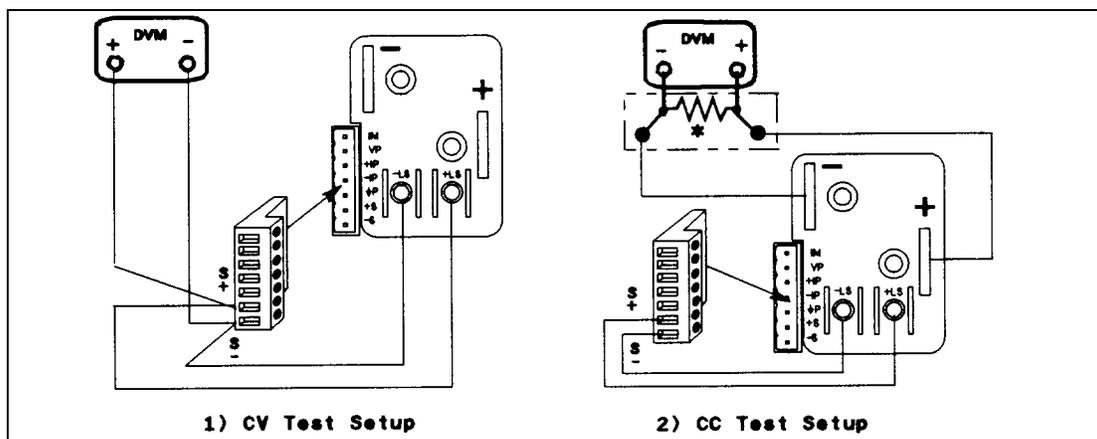

Figure C-1. Verification Test Setup
Figure C-1 shows the setup for the tests. Be certain to use load leads of sufficient wire gauge to carry the output current (see Table 8-1). To avoid noise pickup, use coaxial cable or shielded pairs for the test leads.
This test verifies that the voltage programming, GPIB readback, and front panel display functions are within specifications. Figure C-1(1) shows the setup for the tests. Measure the dc output voltage directly at the sense connections of the output terminals or bus bars. Connect the output as shown.
1	Turn off the power supply and connect a DVM across the sense terminals (see Figure C-1(1)).
This test verifies that the current programming and readback are within specification. Connect the appropriate current monitoring resistor (see Table C-1) as shown in Figure C-1(2). The accuracy of the resistor must be as specified in the table.
1	Turn off the power supply and connect the current monitoring resistor as shown in Figure C-1(2). Be certain to use wire of sufficient size to carry the maximum rated current of the unit (see Table 7-1 in Chapter 7).